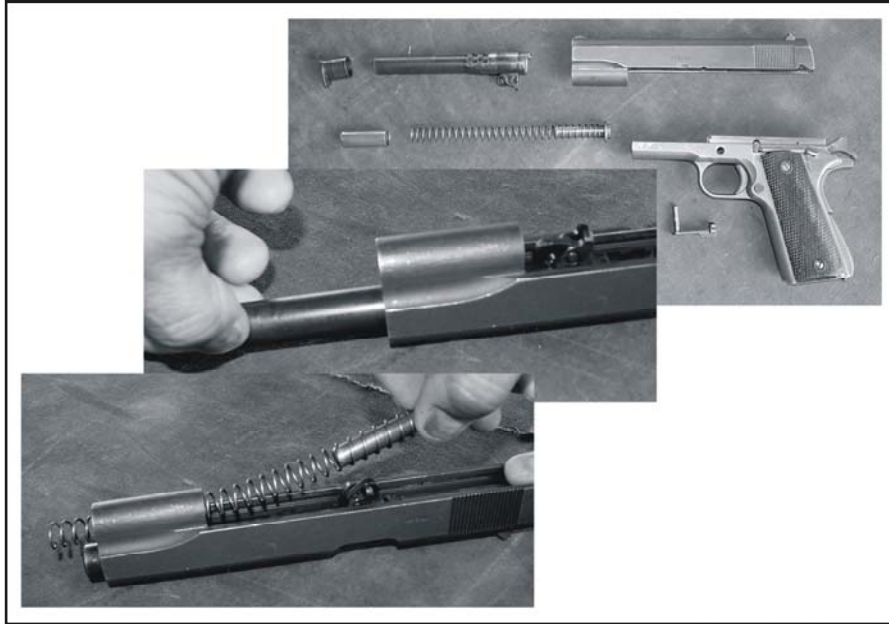

Figure 7. Remove the Barrel
- l. Remove the recoil spring guide and the recoil spring from the slide group. Separate the two parts (Figure 7).
- o. Put a finger into the ejection opening. Push up on the barrel a little. Slide the barrel out the front end of the slide group (Figure 7).